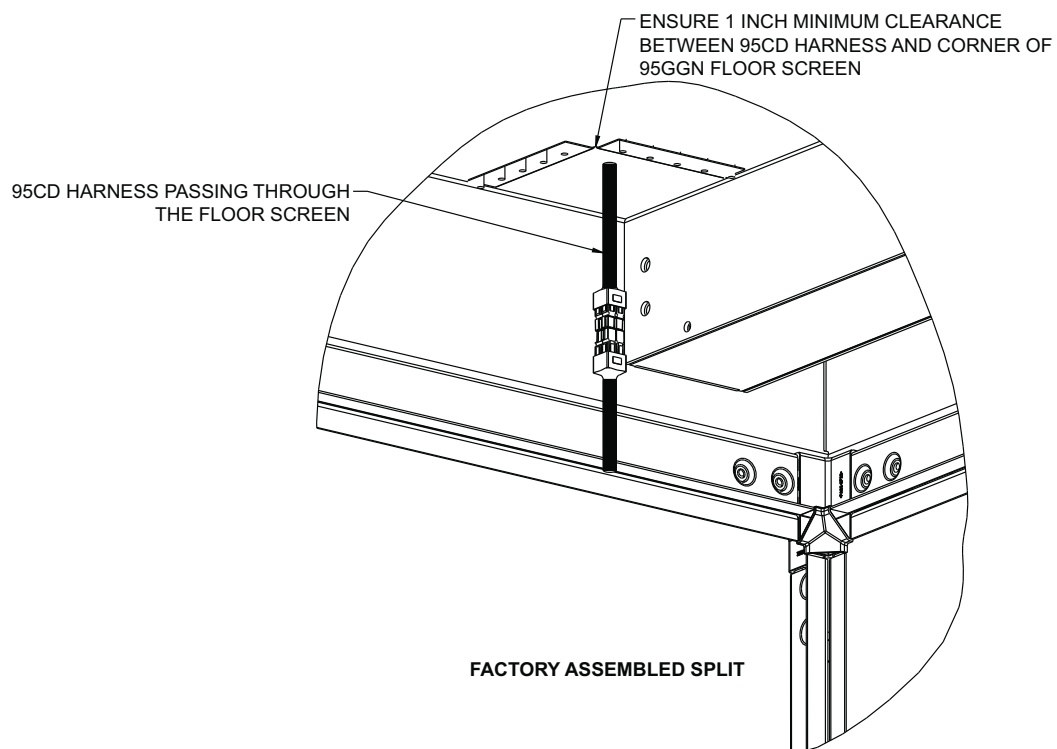

Fig. 35 — Stacked Unit Harness Connection at Vertical Split as Assembled
8. Detach harness(es) from shipping restraints, connect power poles for each harness as shown in Fig. 35.